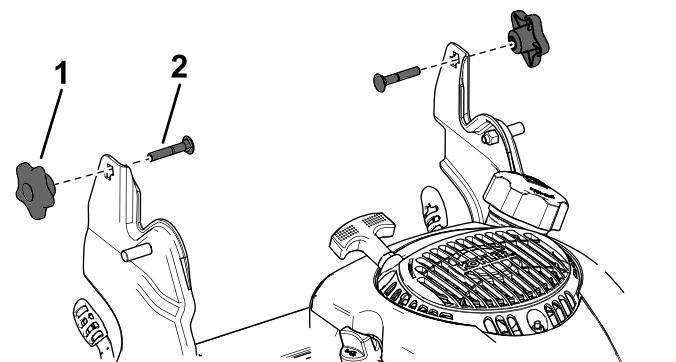

**Figure 19**
2. Fold the handle by rotating it forward (Figure 19).